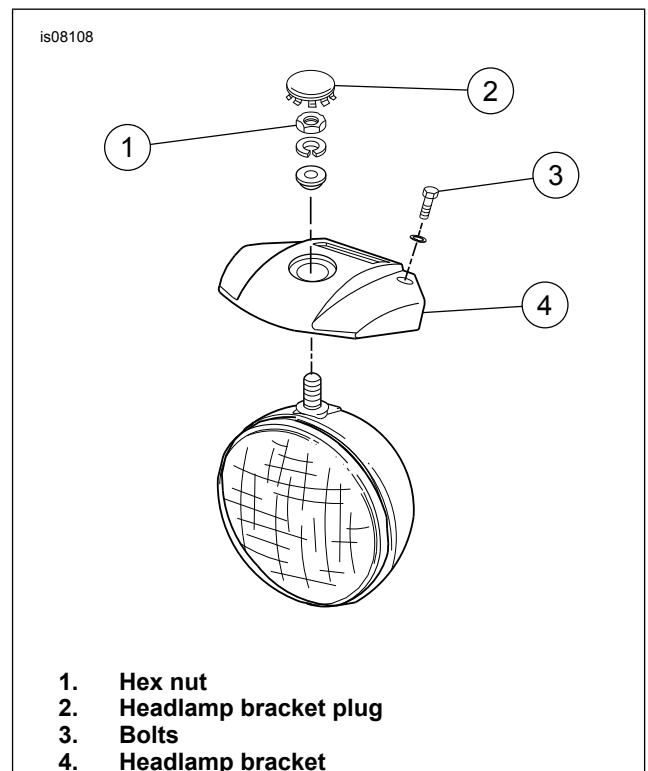
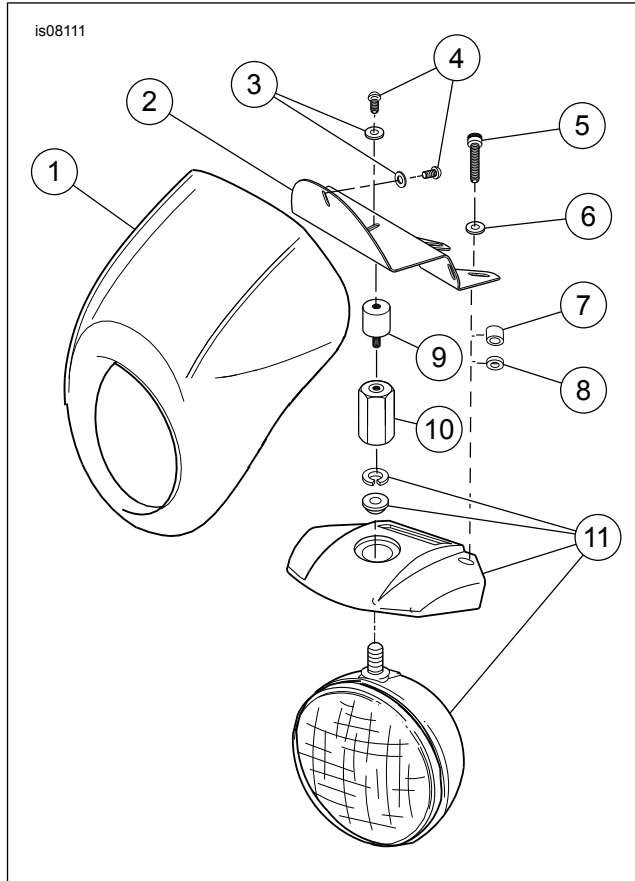

Figure 1. Headlamp Assembly
Figure 4. Service Parts
See Figure 4 and Table 1.
1. See Figure 1. Remove the headlamp bracket plug (2) off the top of the headlight with a small flat screwdriver.
2. Remove the nut (1) underneath the plug as shown. Replace the nut with the hex spacer from kit. Leave the nut loose until Step 5 is complete.
3. See Figure 4. Install the edge gasket to the headlamp visor. The gasket should be installed at the headlamp opening as indicated in illustration. When installing gasket, start at the top of the headlamp opening and work gasket into place, finishing with the seam at the top.
6. Attach the rubber mount (9) to the hex spacer (10) and tighten securely.
7. Remove the bolts attaching the headlamp bracket to the vehicle. Attach the visor mount bracket (2) to the top of the headlamp bracket as follows: **Dyna models:** bolts (5), washers (6) and spacer (7) as shown. **Sportster models:** bolts (5), washers (6) and spacer (8) as shown. Attach visor mounting bracket with screw (4) and washer (3) to rubber isolator mount. Leave bracket loose until Step 8.
8. Attach visor to visor mount bracket with three screws (4) and washers (3) as shown. Align the complete headlamp visor assembly flush to the rim of the headlight and tighten all screws to 40 **in-lbs** (4.5 Nm). Tighten the bolts (5) to 12-15 **ft-lbs** (16.3-20.3).